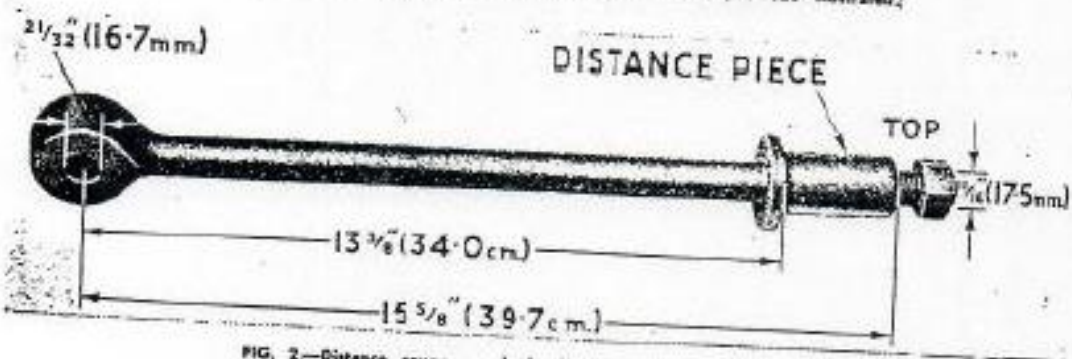
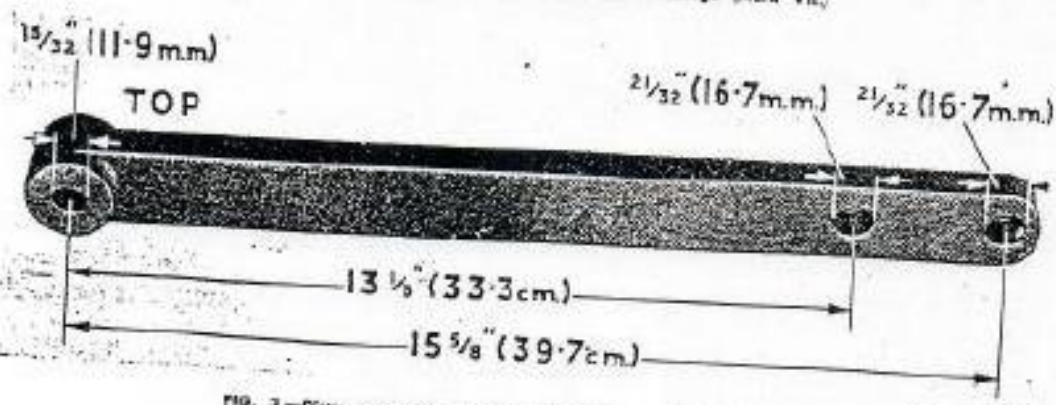

FIG. 2.—Distance gauge — shock absorber mountings, (Mark VII.)
FIG. 3.—Distance gauge — shock absorber mountings, (XK 120.)
*NOTE: A simple distance gauge can be made up to maintain the distance of  $15\frac{1}{2}''$  between the top and bottom shock absorber mountings, as illustrated in Fig. 2 for the Mark VII model and in Fig. 3 for the XK 120 model.*